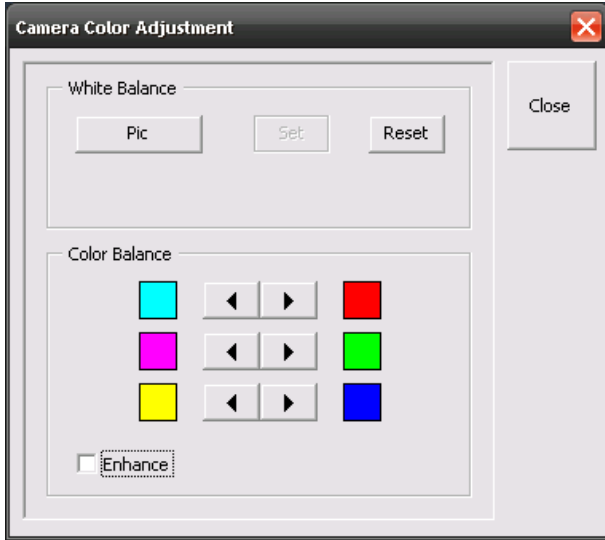

Fig. 5-135 Camera Color Adjustment window
- The **Camera Color Adjustment** window appears on the screen (see Fig. 5-135).